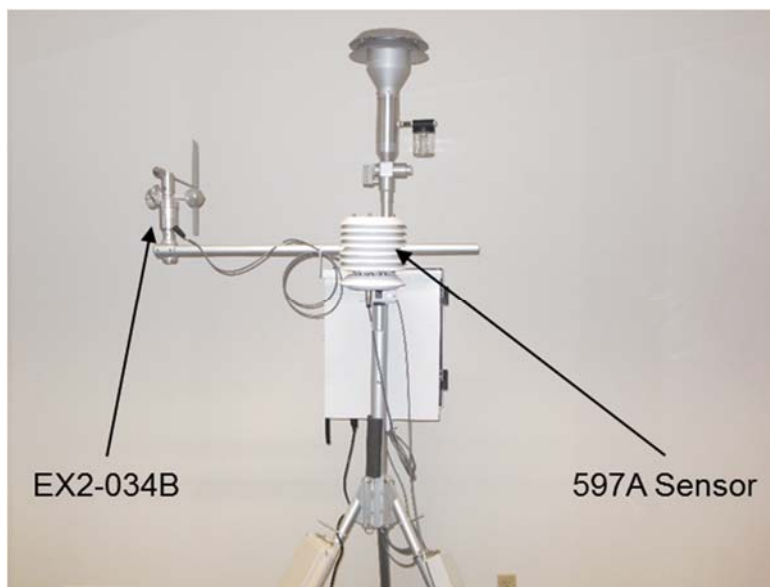

Figure 2-4 Sensor Mounting with an Optional Wind Sensor
5. **Optional Wind Sensor:** If an optional wind speed/direction sensor (such as the EX2-034B or EX2-AIO) is purchased a cross-arm tube to use for mounting the wind sensor will be included. Connect the cross-arm to the post on the back of the tripod with the supplied $\frac{3}{4}$ " x $\frac{3}{4}$ " fitting and set screws and then install the sensor at end of the arm as suggested in Figure 2-4. The wind sensor should be as far from the E-BAM unit as possible, and the wind vane must be able to rotate fully without hitting anything. Plug the wind sensor into the corresponding connector on the bottom of the E-BAM. Depending on the type of wind sensor, it may need to be oriented to the south. Consult the separate manual that comes with the wind sensor for details. Verify configuration after power-up as detailed in section 2.7.2.